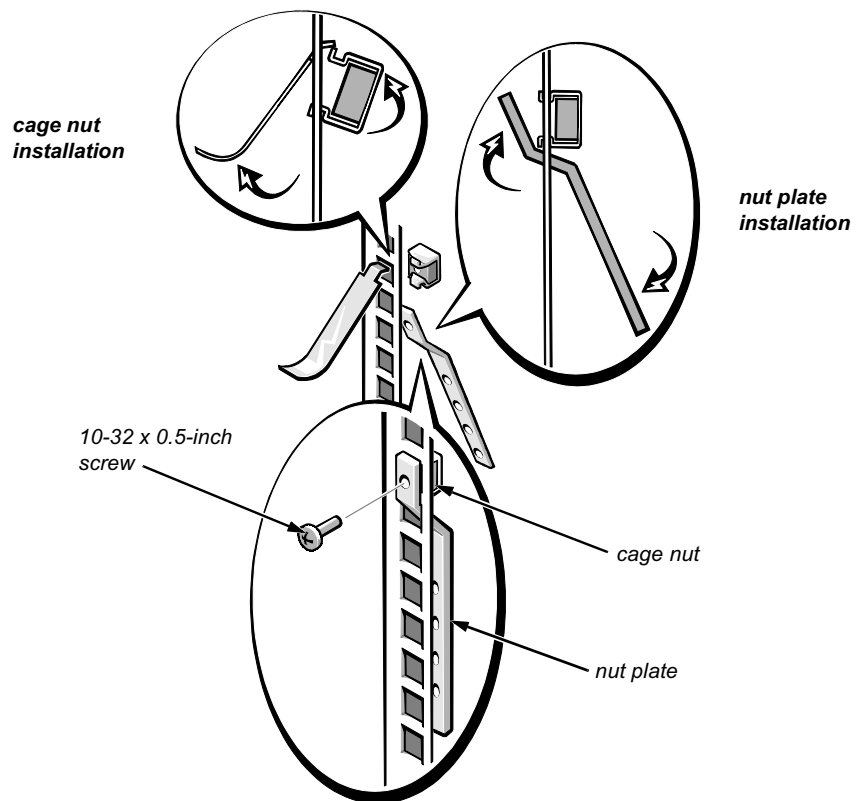

Figure 5. Installing the Cage Nuts and Nut Plates
Install the curved nut plates on the vertical rails where you want the ends of the slide assemblies to be located (see Figure 5). Each curved nut plate is held in place by one Phillips screw and one cage nut.
- Insert the lower lip of the 10-32 cage nut over the bottom of the opening in the back of a rail as shown in the cage-nut installation graphic in Figure 5. Then insert the small end of the cage-nut installation tool through the opening in the rail (from the front), and hook the tool over the top lip of the cage nut.
- To install one of the curved nut plates, insert it through the hole below the cage nut (from the back of the rail) as shown in the nut-plate installation graphic in Figure 5, and then secure the nut plate in place with a 10-32 x 0.5-inch Phillips screw (see Figure 5).